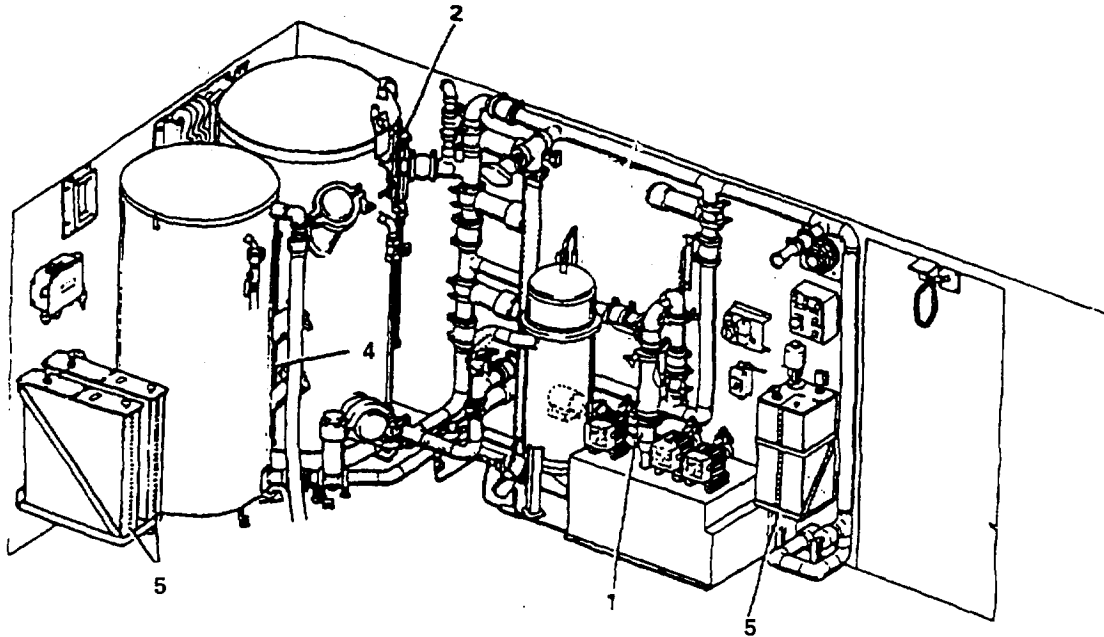

Figure 2-5. Remote Meters and Gages (Sheet 1 of 2)
c. *Remote Meters and Gages.* The meters and gages not mounted on the main control panel are shown in Figure 2-5 and listed in Table 2-4.
(Item numbers are keyed to Figure 2-5)